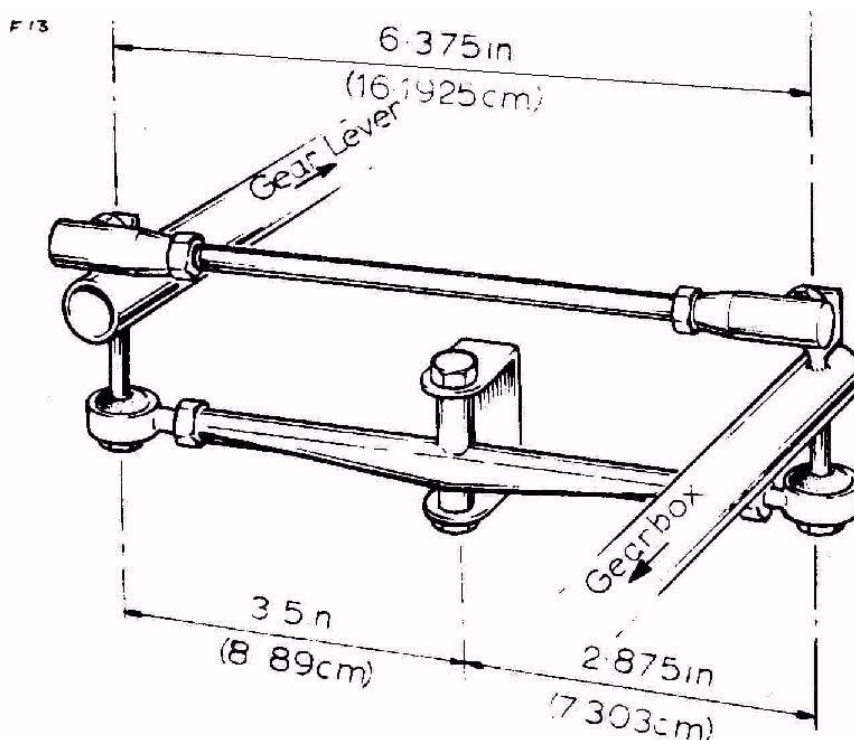

Fig. 105 Gearchange Linkage Adjustment
5. Ensure that the swivel faces of the relay lever bracket are free from dirt, underseal, etc. Liberally coat the swivel tube with grease before assembling the lever. Set the linkage to the dimensions given in Fig. 105.